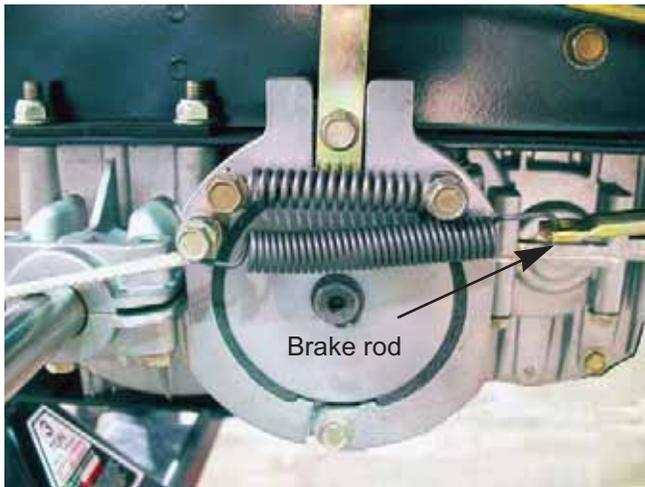

Figure 3.13
3. Disconnect the brake rod spring. See Figure 3.13.